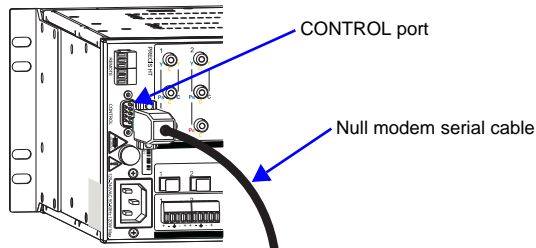

FIG. 7 Attach null modem serial cable
1. Plug the null modem cable into the enclosure's CONTROL port (FIG. 7).